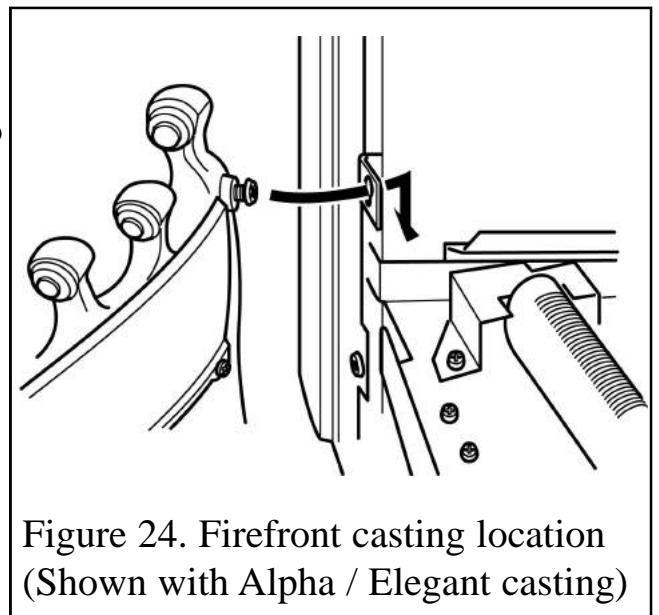

Figure 24. Firefront casting location
that it rests on the hearth (See figure 24).
2. Locate the two screw heads through the keyhole slots at the inner sides of the fascia. If the screw heads do not project enough or project too far, the screws can be adjusted. Lower the casting so that it rests on the hearth (See figure 24).